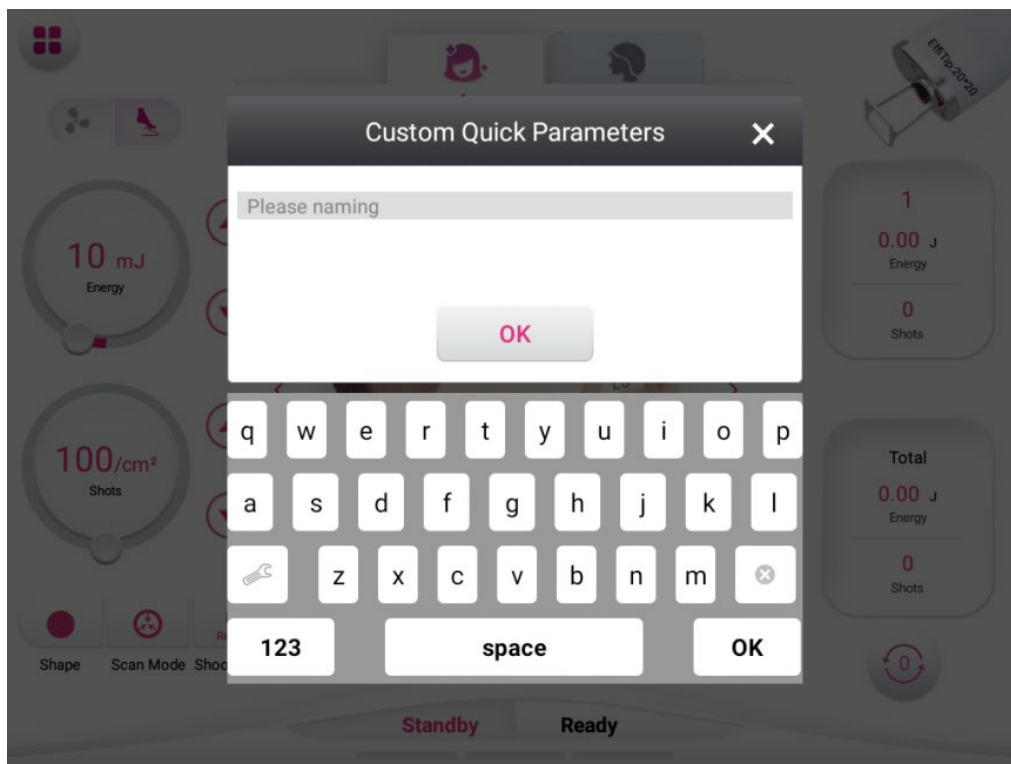

Figure 3-7
⑱**Save shortcut parameter:** Save the parameters at this time for direct recall later (Figure 3-7)